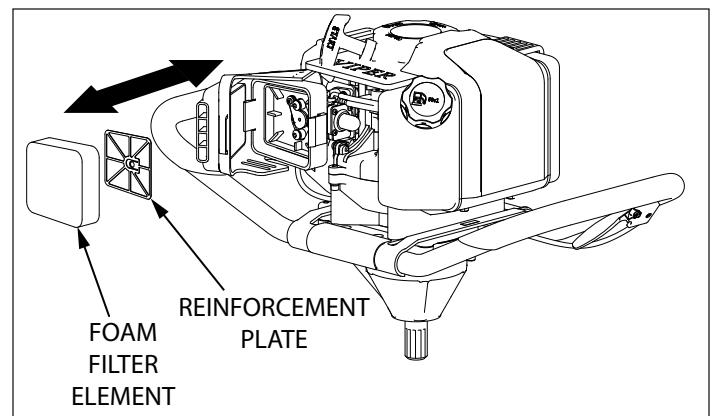

Figure 6
4. Remove the foam filter element (**SEE FIGURE 6**) and replace with a new oiled filter, or clean the original foam filter with warm water and mild soap by following the previous steps for Cleaning Air Filter. Remember to thoroughly oil the foam filter with 30 or 40 weight motor oil and squeeze out any excess oil.